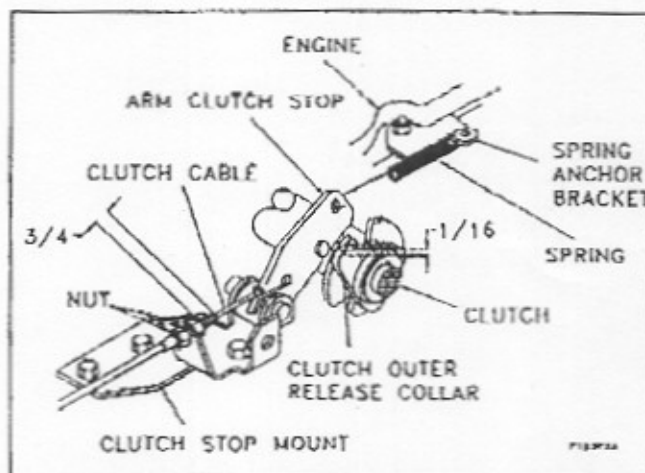

Figure 2.
Note: Spring must be positioned exactly as shown in figure 2. In order to work properly.
7. To adjust Clutch Cable, move nuts on the cable so 3/4" of thread is exposed (See figure 2). When Clutch Stop Arm is in run position and Clutch Outer Release Collar is in position
shown on figure 2 the gap between Clutch Stop Arm and Clutch Outer Release Collar should be 1/16". See figure 2.